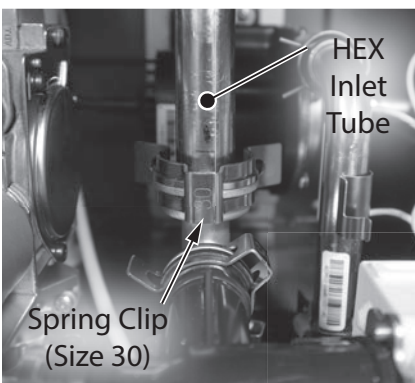

Figure 188 - Remove spring clip securing HEX inlet tube
- 16** Disconnect the spring clip (size 30) securing HEX inlet tube to outlet tee as shown in Figure 188.